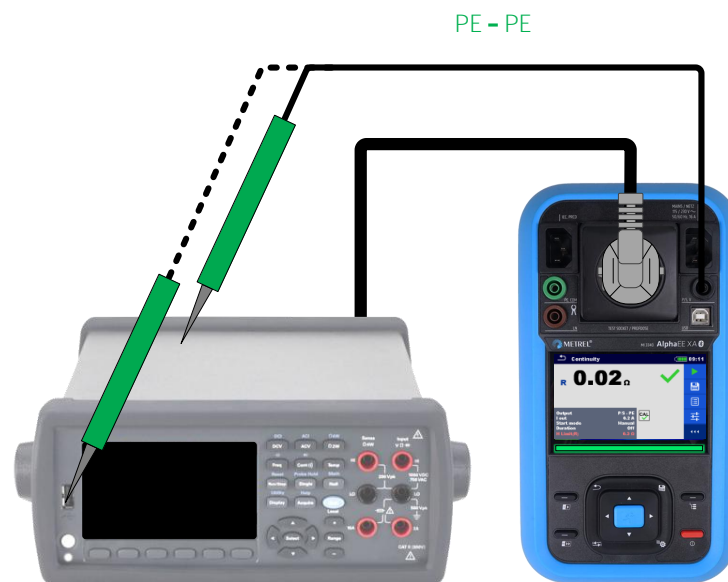

Figure 102_Continuity of protective earth
- Connect the DUT according to the connection diagram Figure 102_Continuity of protective earth,